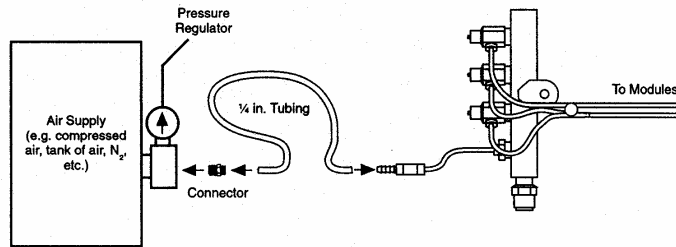

Figure 5
- a. Connect the air distribution manifold to a **regulated** air supply (see Warning above) as shown in Figure 5.*